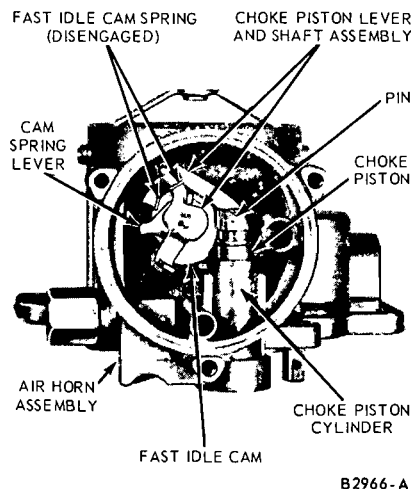

FIG. 8—Automatic Choke Piston Removal or Installation
6. Remove the choke plate attaching screws. File the staked ends, if necessary, and use new screws upon reassembly. Remove the choke plate from the air horn assembly. Disengage the fast idle cam spring from the cam spring lever on the choke piston lever and shaft assembly. Rotate the choke shaft and piston assembly counterclockwise until the choke piston is out of the choke piston cylinder (Fig. 8). Remove the assembly from the air horn. Remove the piston pin, piston, fast idle cam, and fast idle cam spring from the choke piston lever and shaft assembly.
9. Install the fast idle cam and spring on the choke piston lever and shaft assembly. Assemble the choke piston and pin to the choke piston lever and shaft assembly. Disengage the cam spring from the cam spring lever on the choke lever and shaft assembly. Install the choke shaft assembly in the air horn and position the piston as shown in Fig. 8.